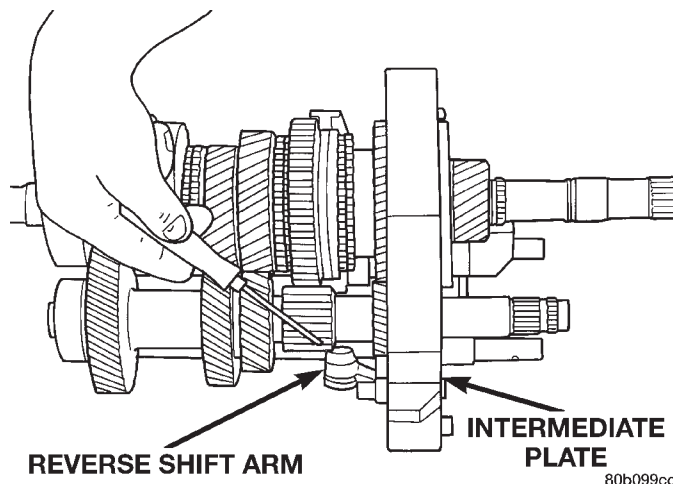
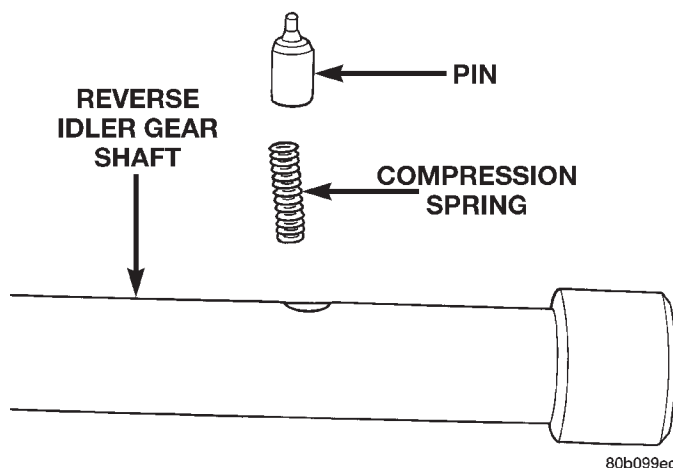

Fig. 88 Reverse Shift Arm Position
Fig. 89 Install Compression Spring And Pin
(28) Position the mainshaft rear bearing retainer over the output shaft and onto the intermediate plate.
(29) Install new bolts to hold the bearing retainer to the intermediate plate.
(30) Move the reverse shift arm into the reverse gear position. The reverse gear position is with the arm moved away from the intermediate plate (Fig. 88).
(31) Install the reverse idler gear assembly into position on the mainshaft and reverse shift arm.
(32) Install the compression spring and pin into the reverse idler gear shaft (Fig. 89).